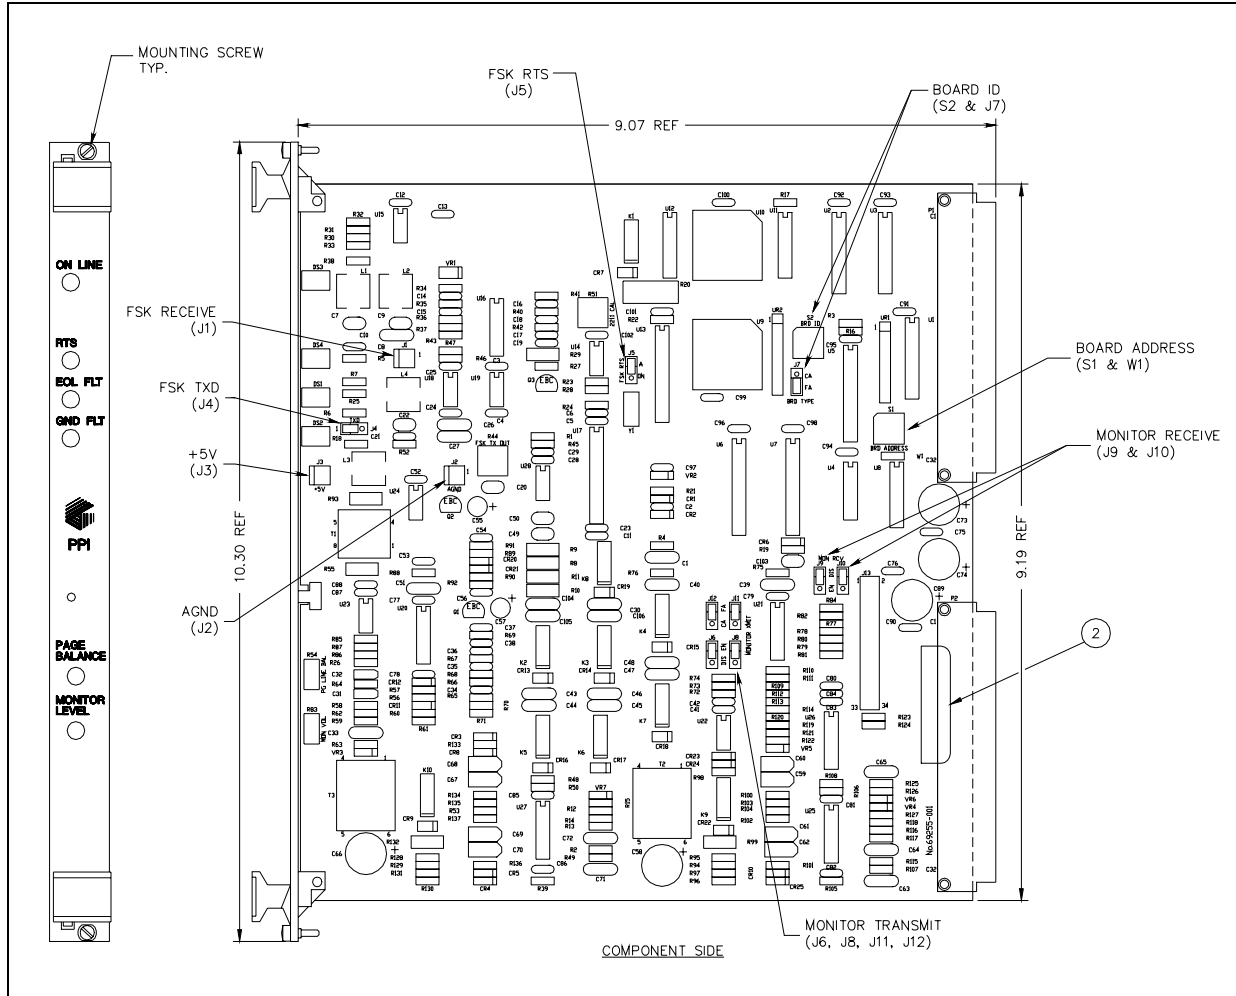

Figure 1. 69255-001 PCBA
2. Set hardware jumpers per the system manual and as described below. See Figure 1 for details.
Align the PCBA into the upper and lower tracks of the assigned slot. Slide the PCBA towards the rear of the card rack until it comes in contact with the backplane connector. Firmly press on the front bezel until the PCBA is seated. Secure to the card rack by tightening the two screws located on the front bezel (See Figure 1).